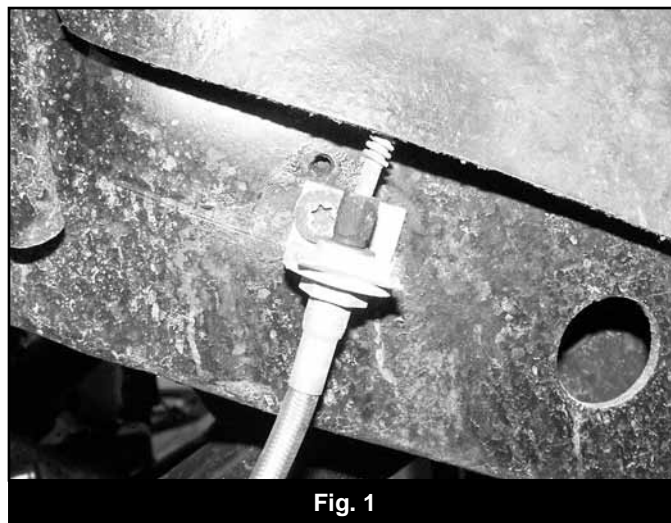

Fig. 1
15. Install new upper brakeline bracket with OE bolt. (Fig. 1)
17. Install BDS front brake line (22510) by attaching upper portion first. Torque to 20 ft-lbs. (Fig 1)